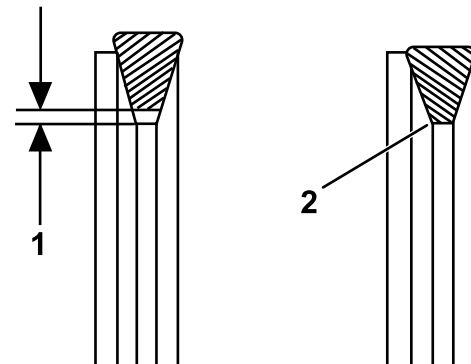

**Figure 64**
3. Loosen the adjusting bolts and nuts, then move the alternator using a wrench to tighten the belt to the correct tension (Figure 64).
4. Tighten the adjusting bolts and nuts (Figure 64).